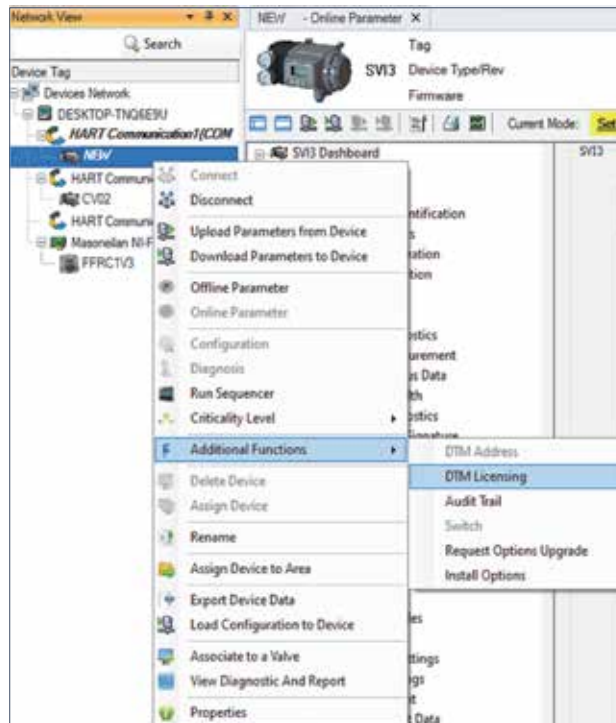

Figure 5 Sample DTM Registration Path
1. Open a Masonellan DTM, select a device and then select **Additional Functions > DTM Licensing** (Figure 5).